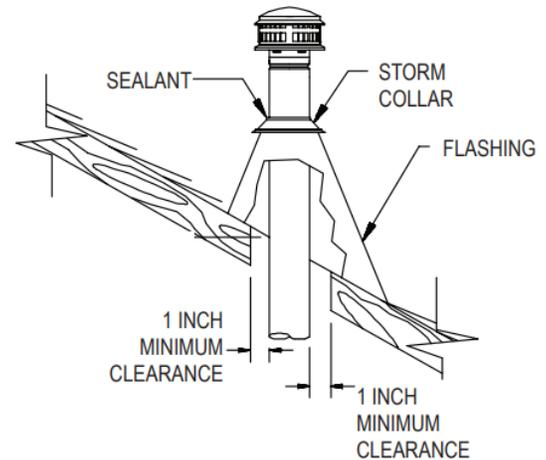

Figure 4
- A non-hardening sealant should be used around the edges of the flashing base where it meets the roof. Non-hardening sealant is placed around the joint between the Flashing and the vertical Pipe Section. The Storm Collar is then placed over this joint, to make a watertight seal. (Figure 4)